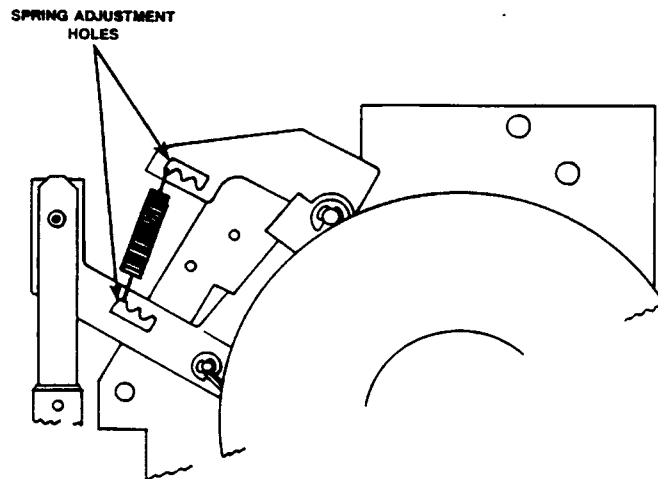

Figure 6-6. Reel Motor Brake Assembly Spring Adjustment
- STEP 5** If the reel motor brake torque is not within specification, remove the top rear cosmetic cover (the cover for the TIB board) and adjust the brake spring tension as shown in Figure 6-6.
- STEP 11** If the reel motor brake torque is not within specification, remove the top rear cosmetic cover (the cover for the TIB board) and adjust the brake spring tension as shown in Figure 6-6.